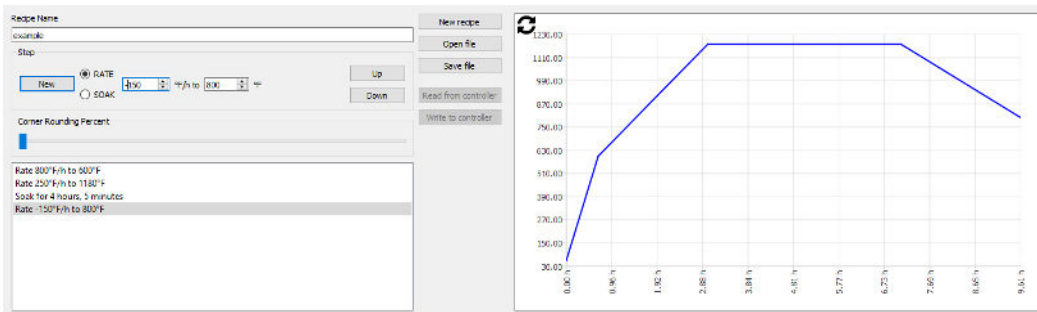

Figure 76: Recipe Editor – ‘Negative Rate’ Step
7. If your heat cycle parameters require a controlled cooling step, add another ‘Rate’ step and set a negative ramp rate as well as the temperature the piece must cool to before the cycle ends. An example of this is shown in Figure 76 below.